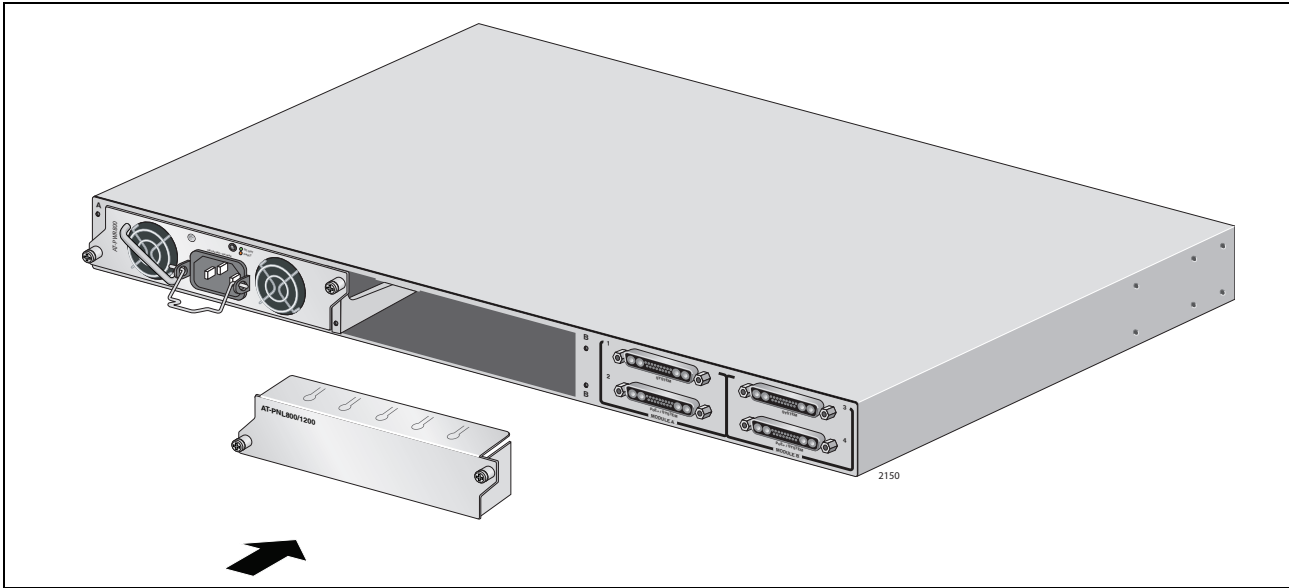

Figure 43. Installing the Slot Cover
6. If the unit is to have only one power supply module, cover the empty slot with one of the slot covers, labelled AT-PNL250 and AT-PNL800/1200, provided with the unit, as shown in Figure 43 on page 64.